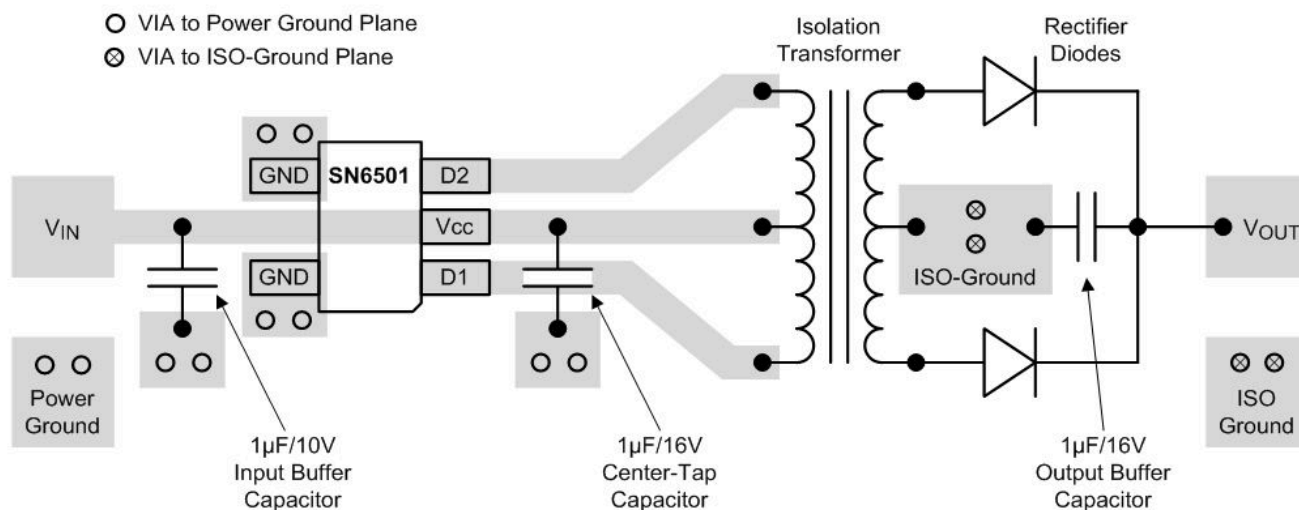

Figure 11-1. Layout Example of a 2-Layer Board (SN6501)
- The optimum placement is closest to the  $V_{IN}$  and GND pins at the board entrance to minimize the loop area formed by the bypass-capacitor connection, the  $V_{IN}$  terminal, and the GND pin. See Figure 11-1 for a PCB layout example.